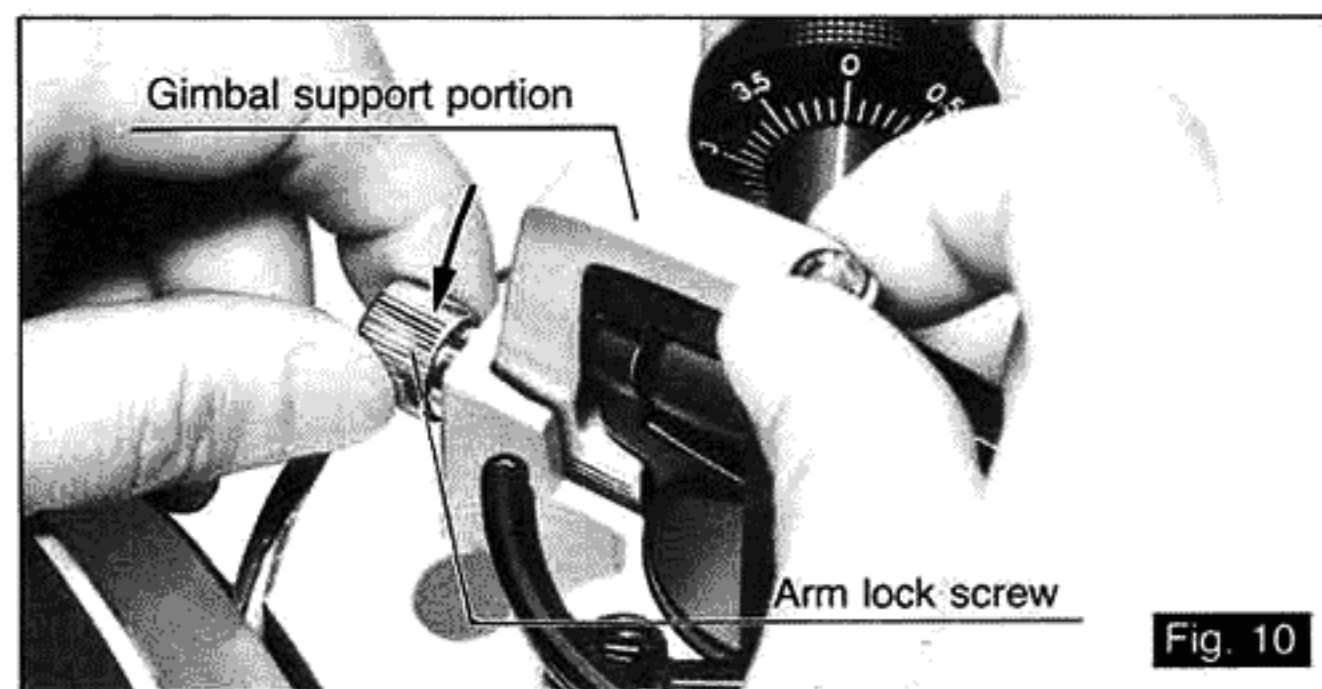

Fig. 10
### ⑧ Adjustment of the arm height. (See Figs. 10, 11 and 12).